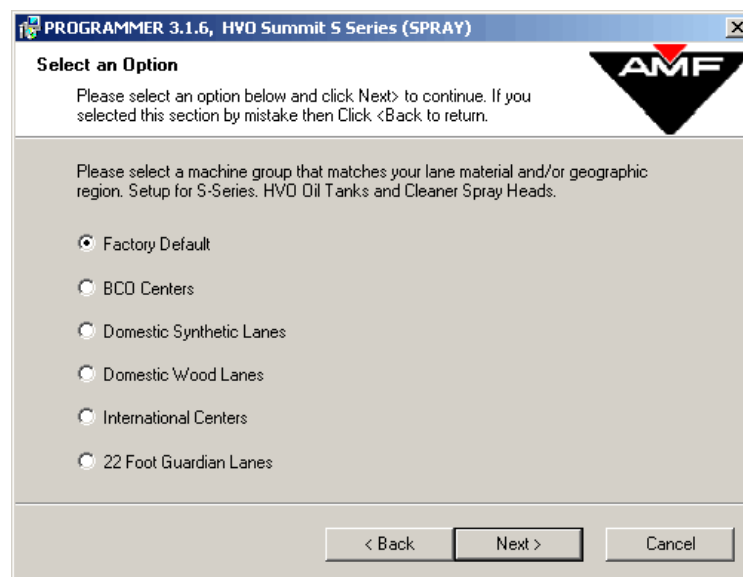

Figure 1-9
11. The next set of options asks for information about your lanes. Choose the option that best fits the lanes that you have. The Factory Default is already chosen for you as shown in **Figure 1-9**. Choosing Factory Default yields the same installation results as choosing Domestic Synthetic Lanes and should only be used if you are unsure what lane type you have. Your choice can be changed by reinstalling the program later if needed. Once the appropriate selection has been made, click on the <Next> button.